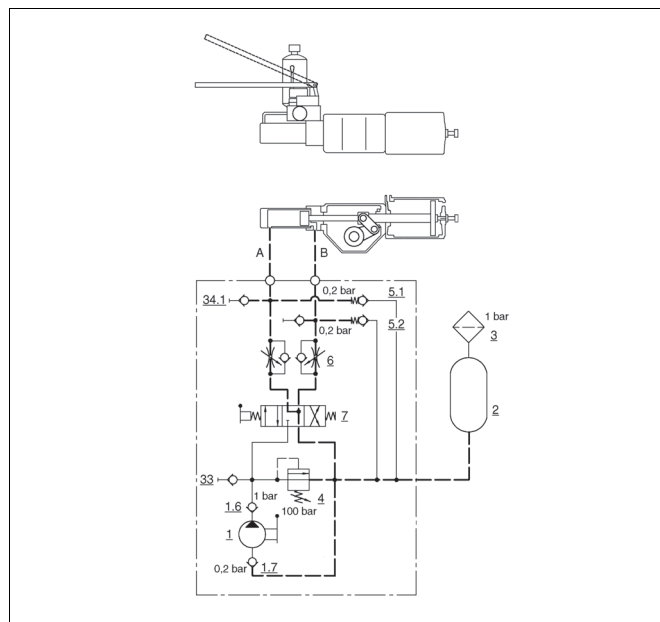

Fig. 11 Operating principle of the hydraulic pump unit on remote control
Fig. 11 shows the schematic operating principle of the hydraulic pump unit on remote control.
When the lever of the 4/3-control valve (7) (see Fig. 11) of the hydraulic pump unit automatically centres to its "idle" position, the hydraulic oil can circulate freely to the other side of the actuator cylinder piston. The device is now ready to be pneumatically operated.